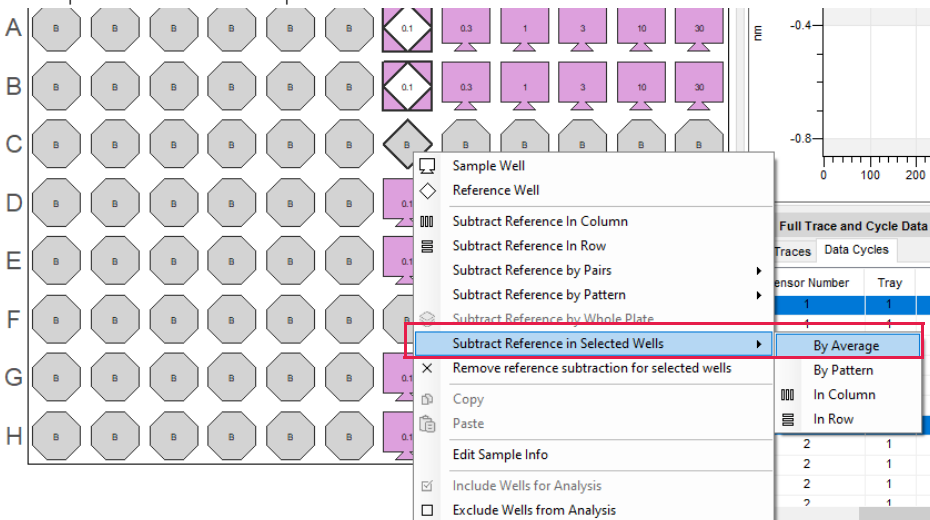

Figure 4-52: Subtracting Specific Wells
3. **To subtract specific reference and load/sample wells** - select the wells, right click anywhere on the sample plate and select **Subtract Reference in Selected Wells by Average** (Figure 4-52). Use this option when there is no pattern or you want to apply different types of referencing on the plate rather than applying one subtraction option to the whole plate.